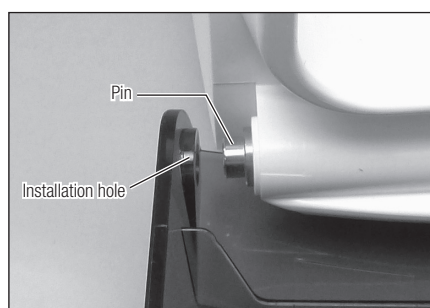

Fig. 23
- 1) Fit the installation hole on the door into the pin on the front left side (Fig. 23).